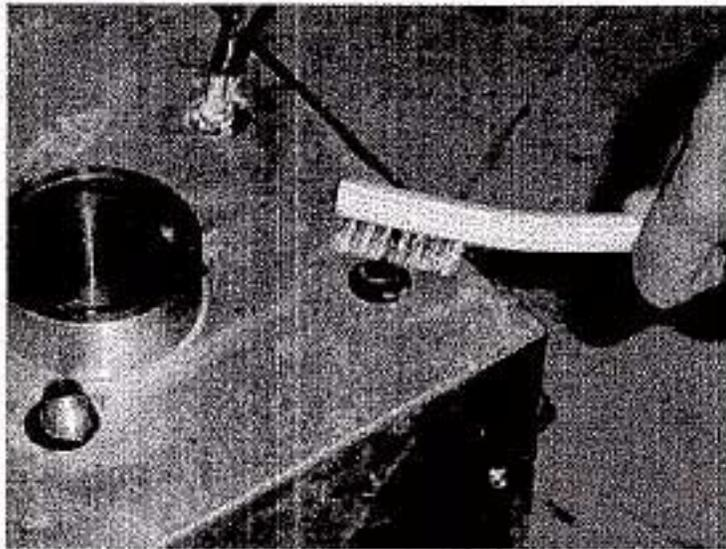

Figure 1. Clean Surfaces
9. Clean all surfaces in and around heater well with a wire brush (Figure 1). Make certain all surfaces are free of dust, syrup, oil, and/or other substances that will prevent sealant from adhering to the heater well. **Caution: Do not use water or other cleaners that will introduce moisture into the heater well.**